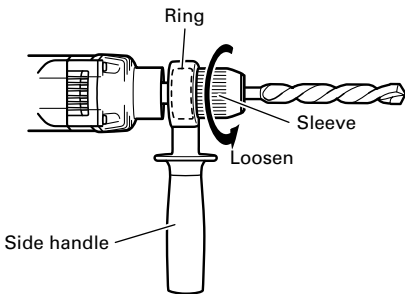

Fig. 4
- (4) When the sleeve does not become loose any further, fix the side handle to retaining ring, hold side handle firmly, then turn the sleeve to loosen by hand. (Fig. 4)